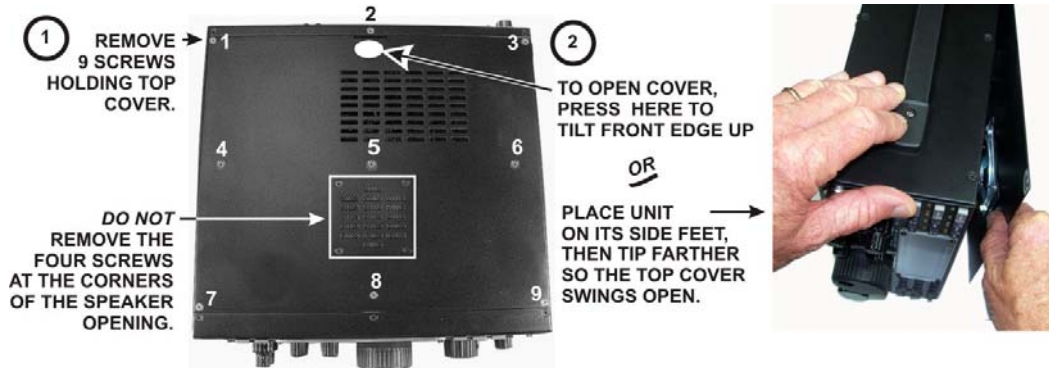

Figure 1. Removing the Top Cover.
- ☐ Remove the K3 top cover as shown in Figure 1.
Replace the nine flat head screws shown in Figure 1.